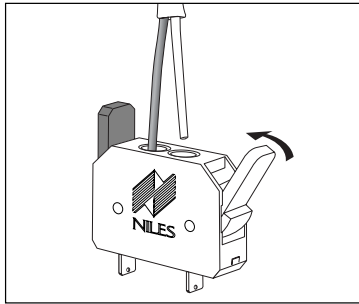

Figure 2
3. Attach the speaker wire (CM6.1SI) or no-strip speaker wire connectors (CM6.3SI, CM6.5SI and CM8.5SI) to the speaker. (See Figure 2).